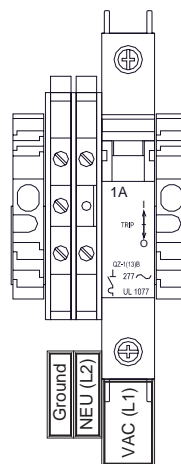

Figure 21 Typical Input Power connections
5. Connect 110-220VAC input to the Fuse Block labeled “VAC (L1)” in the lower left of the enclosure. Connect Neutral (or L2) to terminal labeled “NEU (L2)” and Ground to the Green/Yellow terminal labeled “GROUND” (Figure 21). The power supply is able to accept AC input voltages from 100 to 240 volts at 50 or 60Hz.